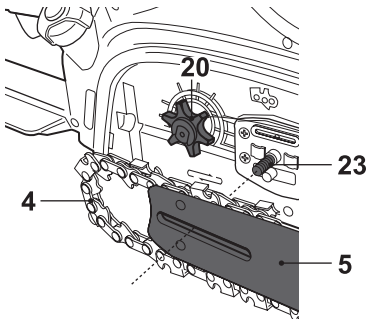

Fig. 5
- > Align the guide bar (5) and saw chain (4) assembly with the drive sprocket (20) and bolt (23). Lay the saw chain around the drive sprocket and then lower the guide bar to install it to the bolt (Figs. 5, 6).